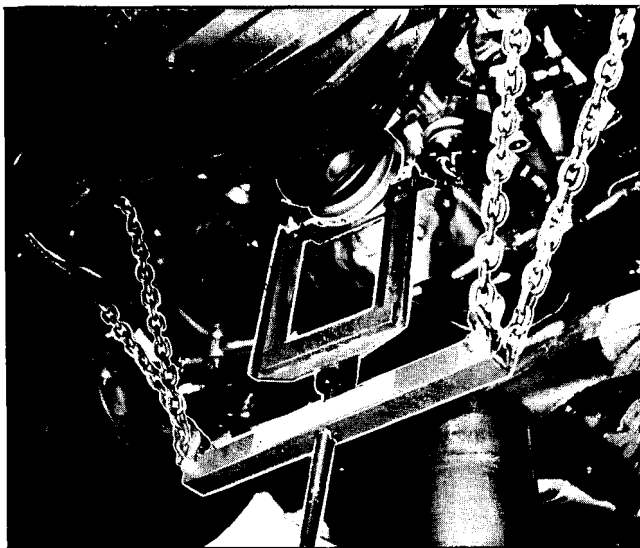

Fig. 6-95 Engine Lifting Tools Installed - B Series
1. Raise hood and, using J-23515-1, J-23515-2 and J-23515-16 (all except 307) or J-23515-1 and J-23515-19 (307) engine lifting tools, take weight of engine off front insulators (Figs. 6-95, 6-96, 6-97, 6-98 and 6-99). Proper Engine Lifting procedure will be found under OIL PAN AND/OR GASKET - REMOVE.